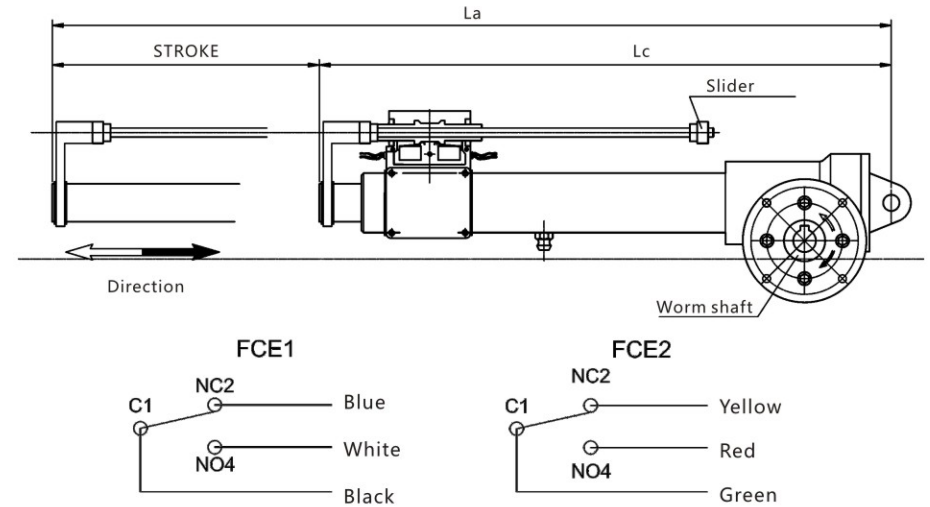

Fig.1.9: Actuator with electric stroke limit device
The electric stroke length limit device FCE consists of 2 switches installed inside a sealed aluminium fixed on the outer tuber, are activated by the adjustable rings. See fig 1.9
c) If necessary, adjust the axial position of the corresponding slider of the electric stroke limit device (see Fig. 1.9), in order to adjust the extreme position of the actuator;